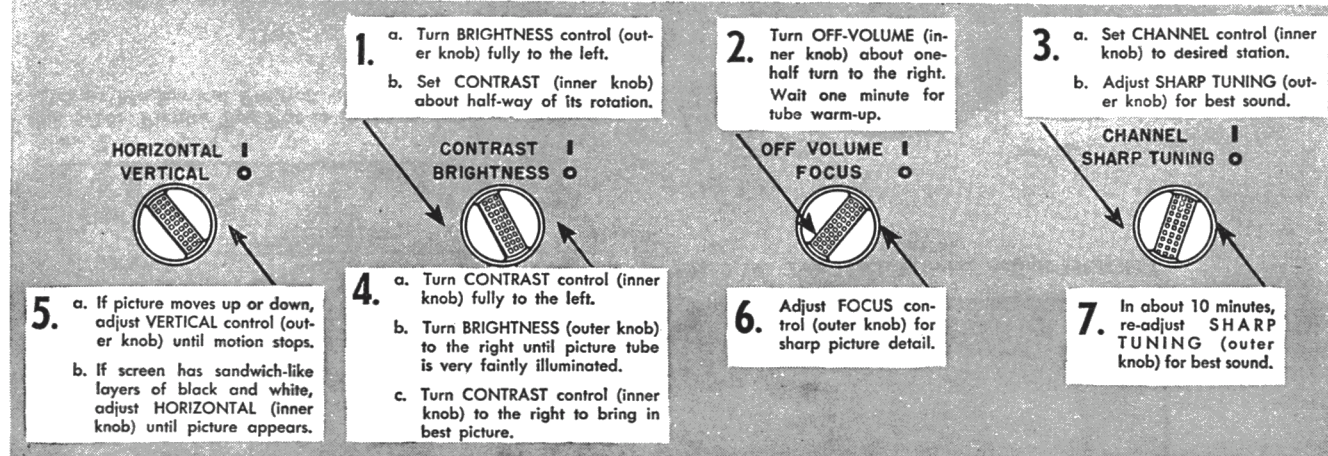

Figure 5-2.
After you have tuned in the picture as described in the chart above (Fig. 5-2), it is sometimes possible to improve picture quality.
- Follow step 3 and when necessary, step 5 in the chart above (Fig. 5-2).
- Follow steps 2, 3, and if necessary, step 5 in the chart above (Figure 5-2).
- a. Turn horizontal hold control R421A (Figure 5-2) on the front of the chassis to the extreme counter-clockwise position.